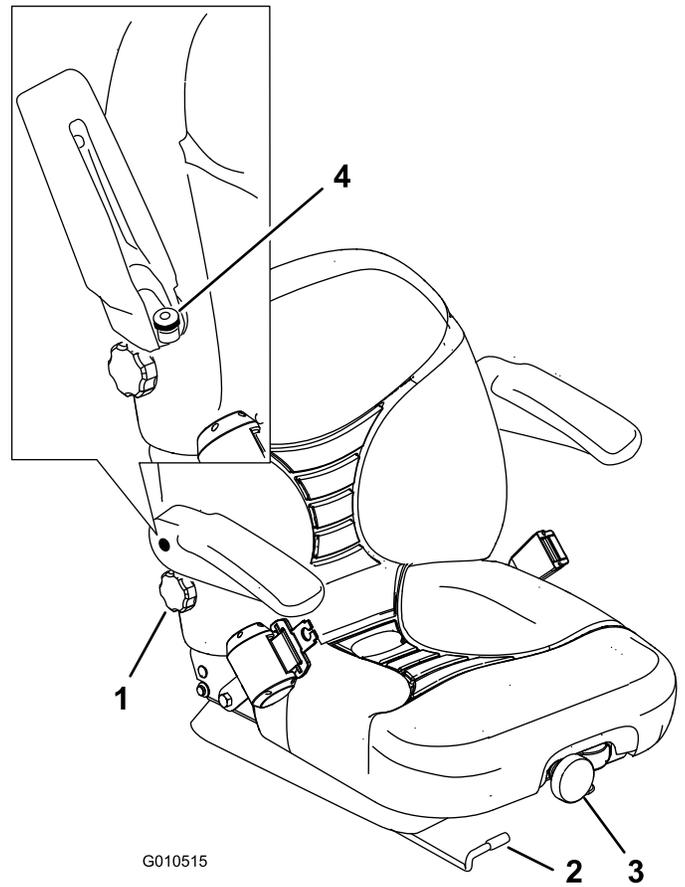

Figure 5
1. To adjust, push the lever downward to unlock seat (Figure 5).
To adjust it, turn the knob in front either direction to provide the best comfort (Figure 5).
To adjust it, raise the armrest and turn the knob in either direction to provide the best comfort (Figure 5).
To adjust it, turn the knob, under the right-side arm rest, in either direction to provide the best comfort (Figure 5).